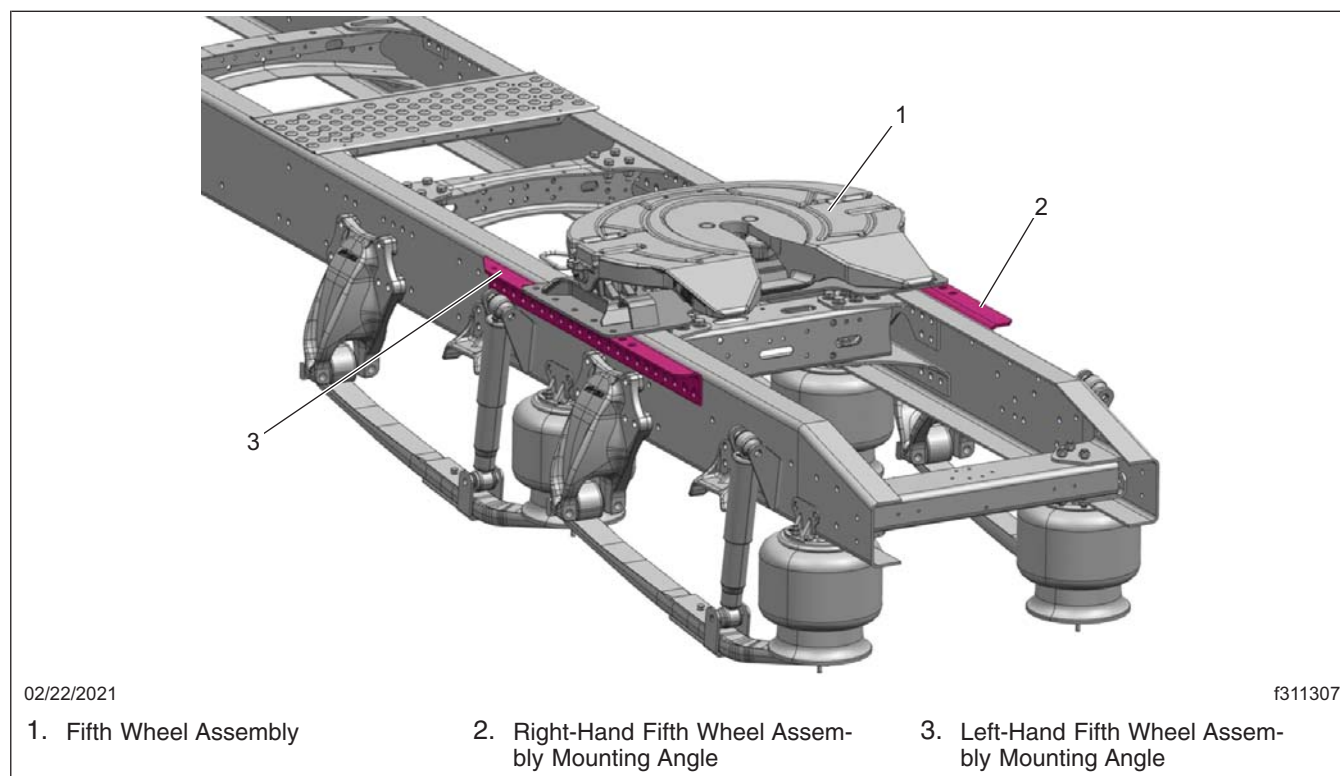

Fig. 1, Fifth Wheel and Frame Rails
3. Remove the cracked fifth wheel assembly mounting angles from the frame rails. See Fig. 1.